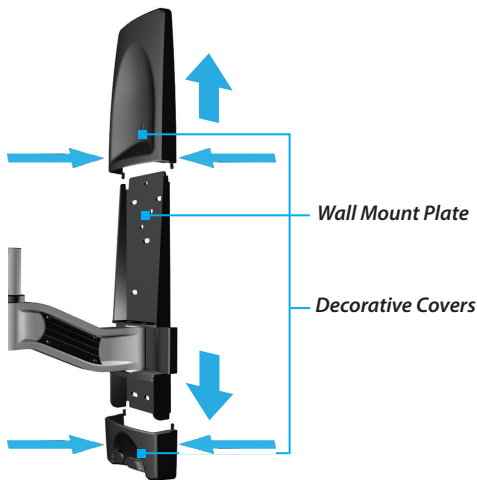

Figure 1
- While **Pressing Both Sides** at the **Bottom** of the **Upper Decorative Cover**, slide **Up** from the **Wall Mount Plate** to remove it. (Figure 1)
- While **Pressing Both Sides** at the **Top** of the **Lower Decorative Cover**, slide **Down** from **Wall Mount Assembly** to remove it. (Figure 1)